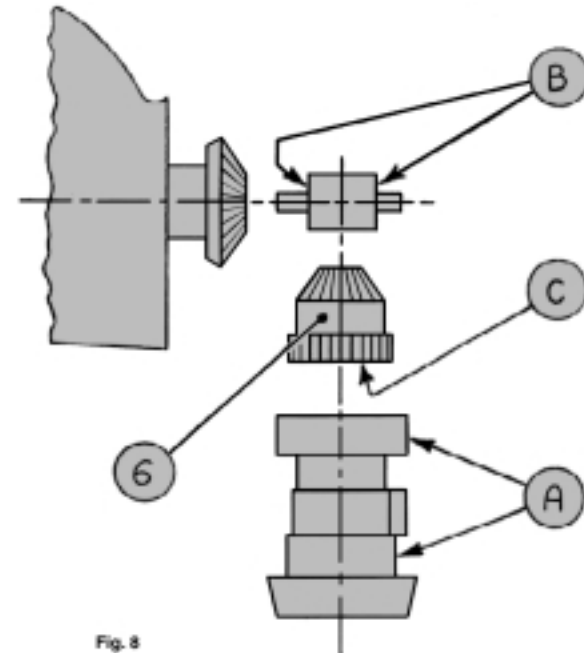

Fig. 8
- B) Sometimes it can happen that a small piece of metal or burr enters among the gears, or a piece of the propeller has been dinged; in this case the blade movement can become hard. It is necessary then to do as follows, referring to figure 8.
- 1) Open the propeller and assemble it again after having taken the central cone gear (6) out, so that the blade and the hub rotation are independent. If the hub rotation is hard, remove 0.01 mm from surfaces "A" with an emery cloth. On the contrary if the blades rotation is hard, remove 0.01 mm from surfaces "B" of the spacer using emery cloth wrapped around a flat file. Try until both hub and blades rotate freely.
- 2) Again mount the central cone gear (6) and reassemble the propeller. If the propeller rotation still has some hard points remove 0.1 mm with a flat file from surface (C) so that central cone gear sits lower and the clearance between conical gears increases.